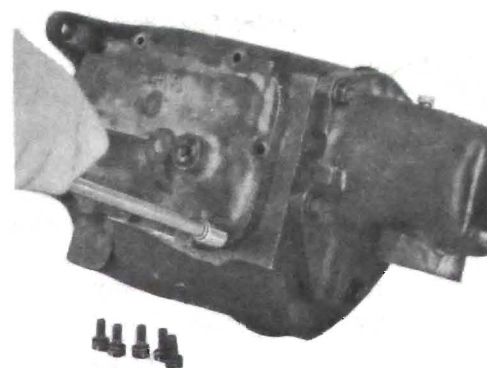

Figure 72-300 Removing Side Cover Bolts
1. With transmission shifter shafts in neutral, remove side cover attaching 1/2" bolts (7), cover assembly, shifter forks (2), and drain lubricant. See Figure 72-300.